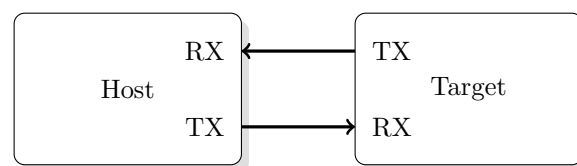

Figure 10.1: Basic Serial Communication
The most basic method for communication with an embedded processor is asynchronous serial. It is implemented over a symmetric pair of wires connecting two devices (referred as host and target here, though these terms are arbitrary). Whenever the host has data to send to the target, it does so by sending an encoded bit stream over its transmit (TX) wire. This data is received by the target over its receive (RX) wire. The communication is similar in the opposite direction. This simple arrangement is illustrated in Fig. 10.1. This mode of communications is called asynchronous because the host and target share no time reference (no clock signal). Instead, temporal properties are encoded in the bit stream by the transmitter and must be decoded by the receiver.